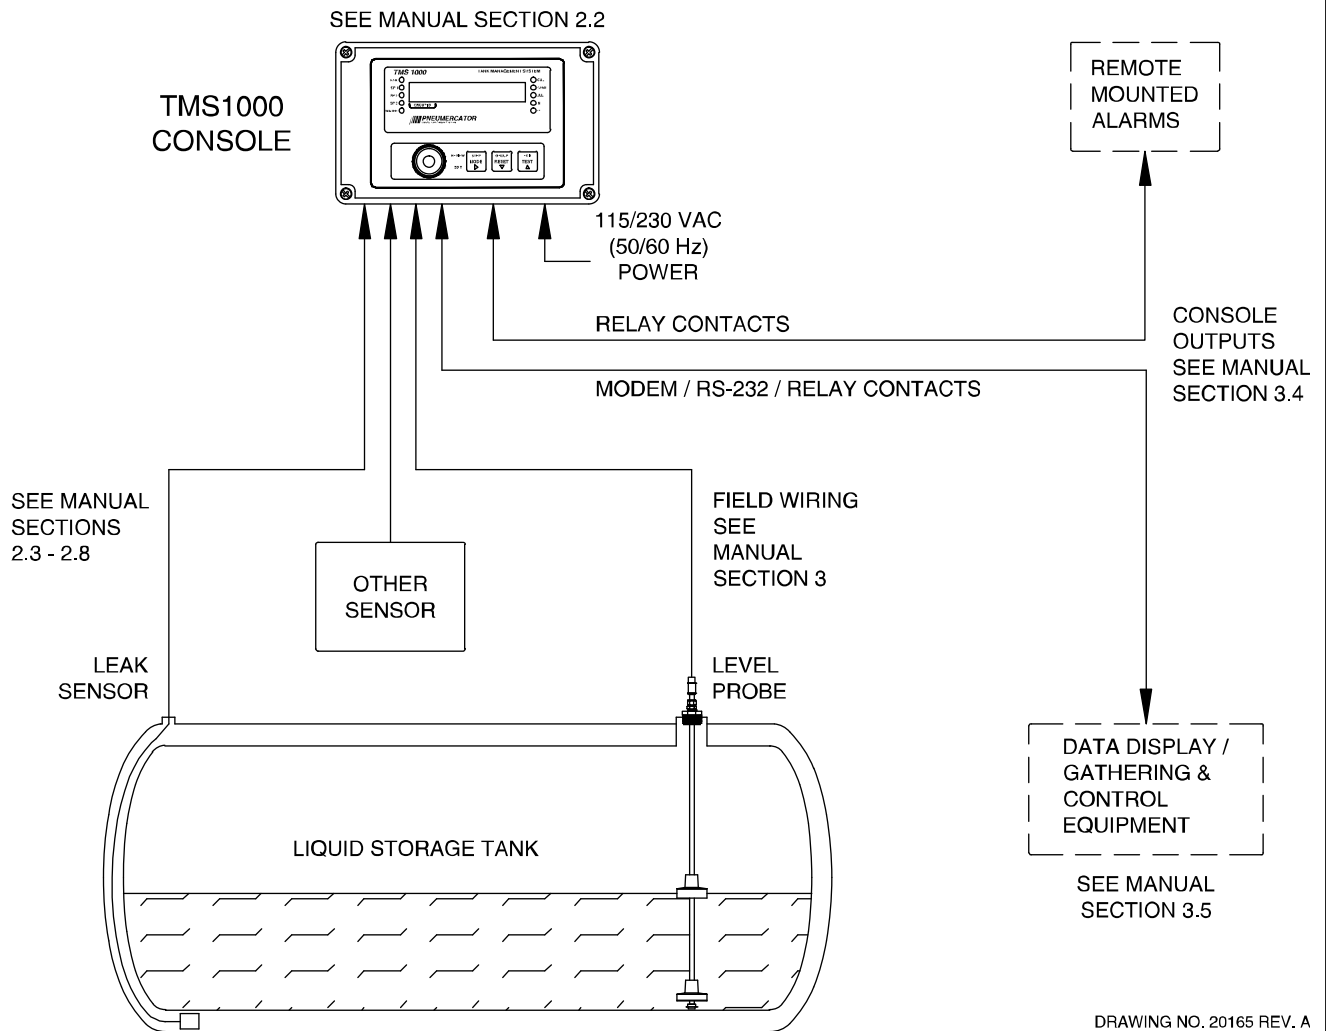

Figure 1-1 – Typical System Block Diagram
The TMS1000N is a fully integrated tank monitor system that combines level measurement with leak detection using external sensors for secondary containment. Figure 1-1 shows a typical block diagram of how a system should be configured for installation. This diagram is not a detailed wiring diagram, which is found in Section 3 of this manual. Figure 1-1 is to guide the installer in planning the actual installation, and give a general overview of the TANK, LEVEL PROBE, EXTERNAL SENSORS, and OPTIONAL equipment that may be required for a typical installation. Figure 1-1 shows one (1) tank with two (2) sensors. Refer to the specific design drawing for the customer's actual site for complete site-specific details on how many sensors are specified.